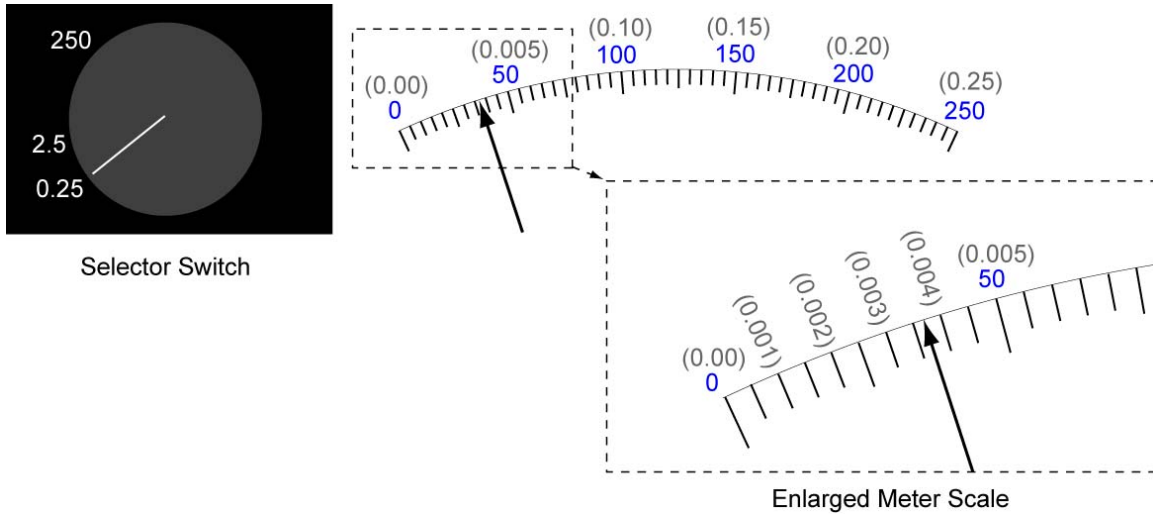

Figure 7: Reading Analog Meter Example 3
- Analog Example 3: In Figure 7, the selector switch is set to 0.25, not 250. The revised grey scale values in parenthesis are added mentally. The enlarged insert demonstrates the grey values that are also mentally added between (0.00) and (0.005). The reading is an intermediate value between 0.0035 and 0.004. Using interpolation (i.e. estimation) between these two known values, the reading is 0.0037.